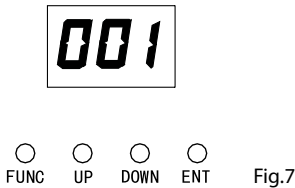

Fig.7
- Press the button FUNC so many times until the display shows the DMX address (fig.7).